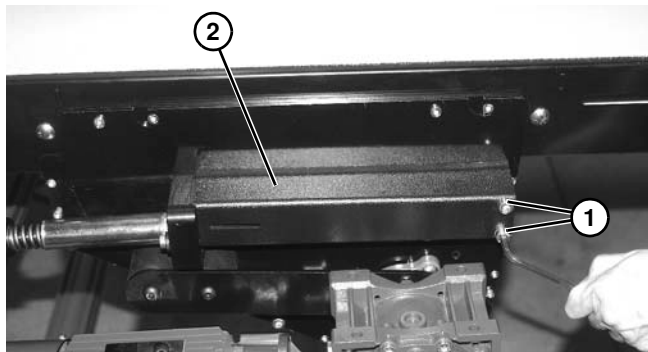

Figure 183
1. Remove two screws (**Figure 183, item 1**) and channel guard (**Figure 183, item 2**) from each side of center drive.
8. Reinstall channel guard (Figure 183, item 2). Tighten screws (Figure 183, item 1) to 8 Nm (69 in lbs).